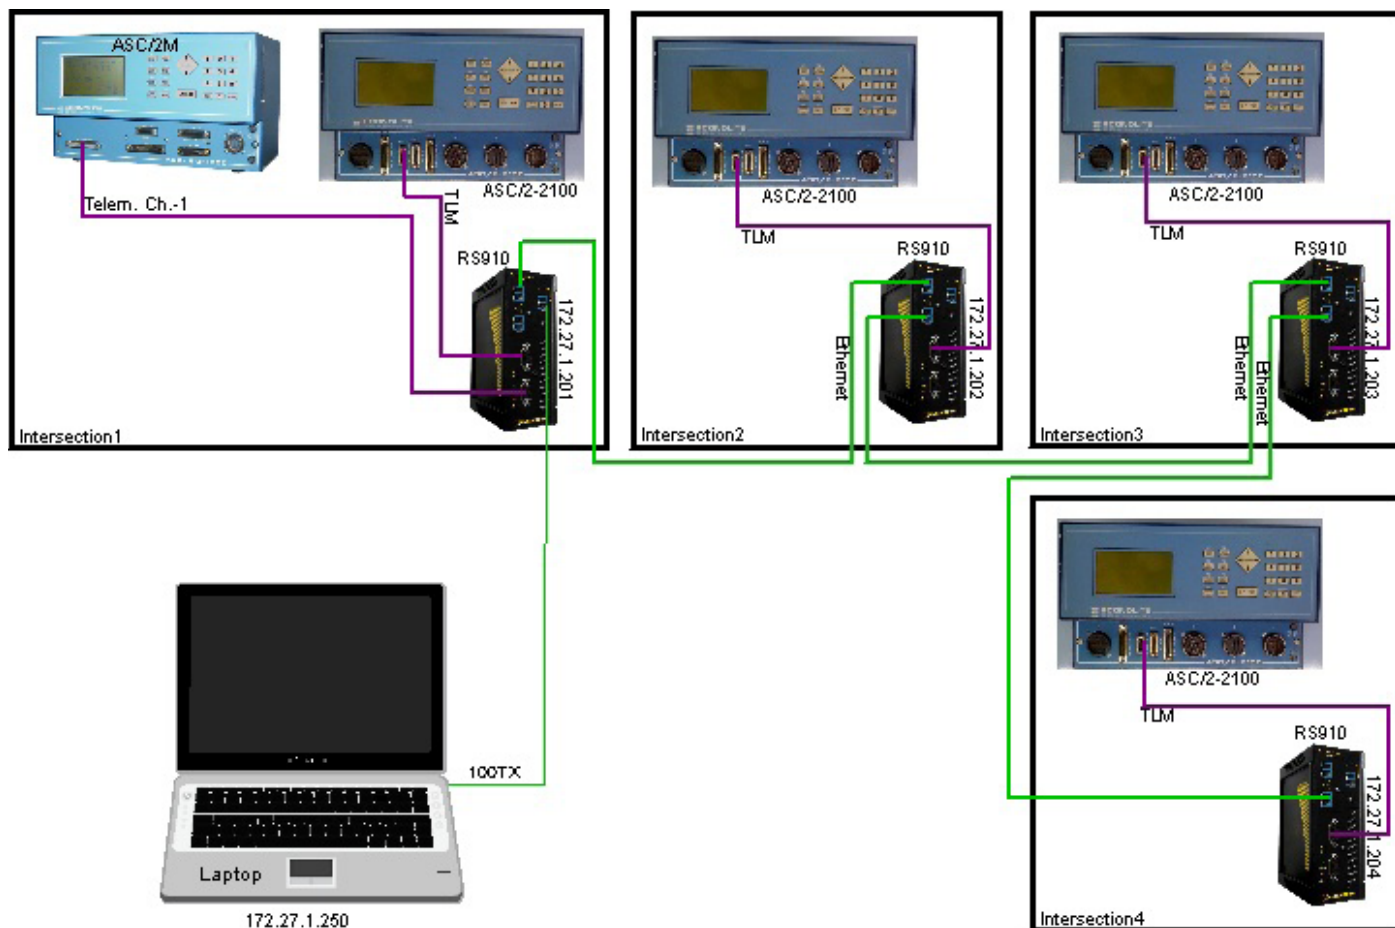

Figure 1. ASC/2M to ASC/2 Ethernet Connection through Ruggedcom Terminal Servers
There are many factors involved in a successful implementation of an Ethernet-type Communications Network. Most of these factors are beyond the scope of this application note and are not included here. We assume that you are knowledgeable with the various Microsoft Windows® operating systems, administrative functions, and general LAN/WAN terminology and topologies. Figure 1 shows the basic design discussed in this document.
Most of the hardware listed here is shown in Figure 1. However, some of the hardware is internal to the devices shown and thus is not in view.
2. Use the illustration in Figure 1 of this application note and connect the hardware.